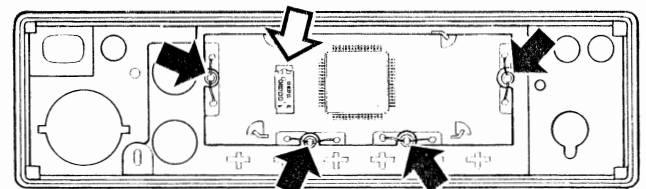

Figure 6.
- ❑ Again using a pair of long nose pliers, remove the nut from the **DIAL** knob shaft. Remove the front panel and LCD Unit by gently pulling it away from the transceiver body. Note the small connector on the rear of the LCD Unit that mates with jack J2006 on the Control Unit circuit board (Figure 6).
With the rear of the front panel exposed, the four LCD backlighting lamps are accessible (Figure 6). Use a low-wattage soldering iron to remove the lamps and install new ones.